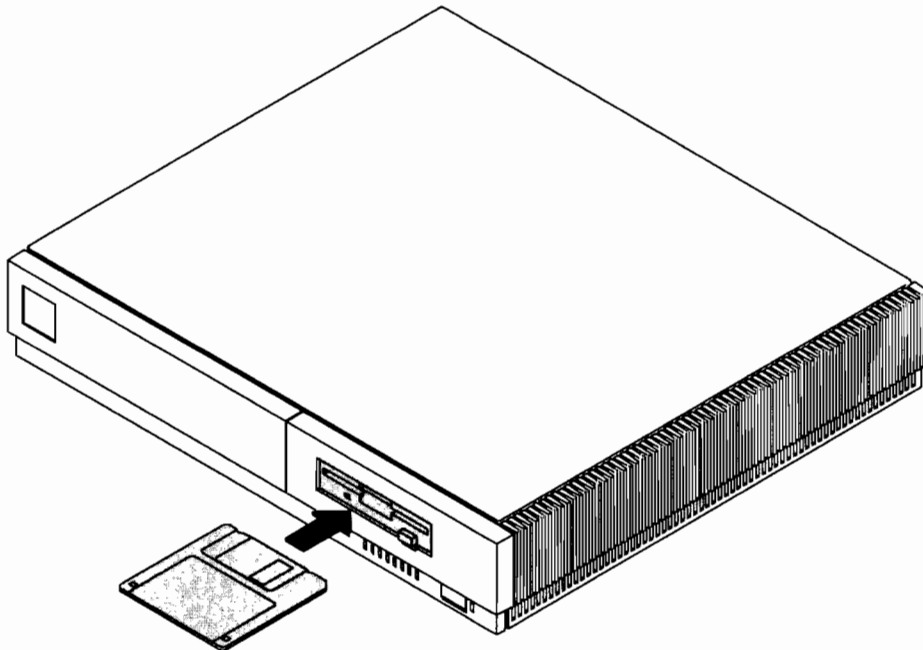

Figure 7-2. Inserting the Floppy Diskette
1. If the system has a floppy drive, insert a floppy diskette in it (see Figure 7-2). If the system has a CD-ROM, SAX does not test the drive; ignore any error messages you receive.